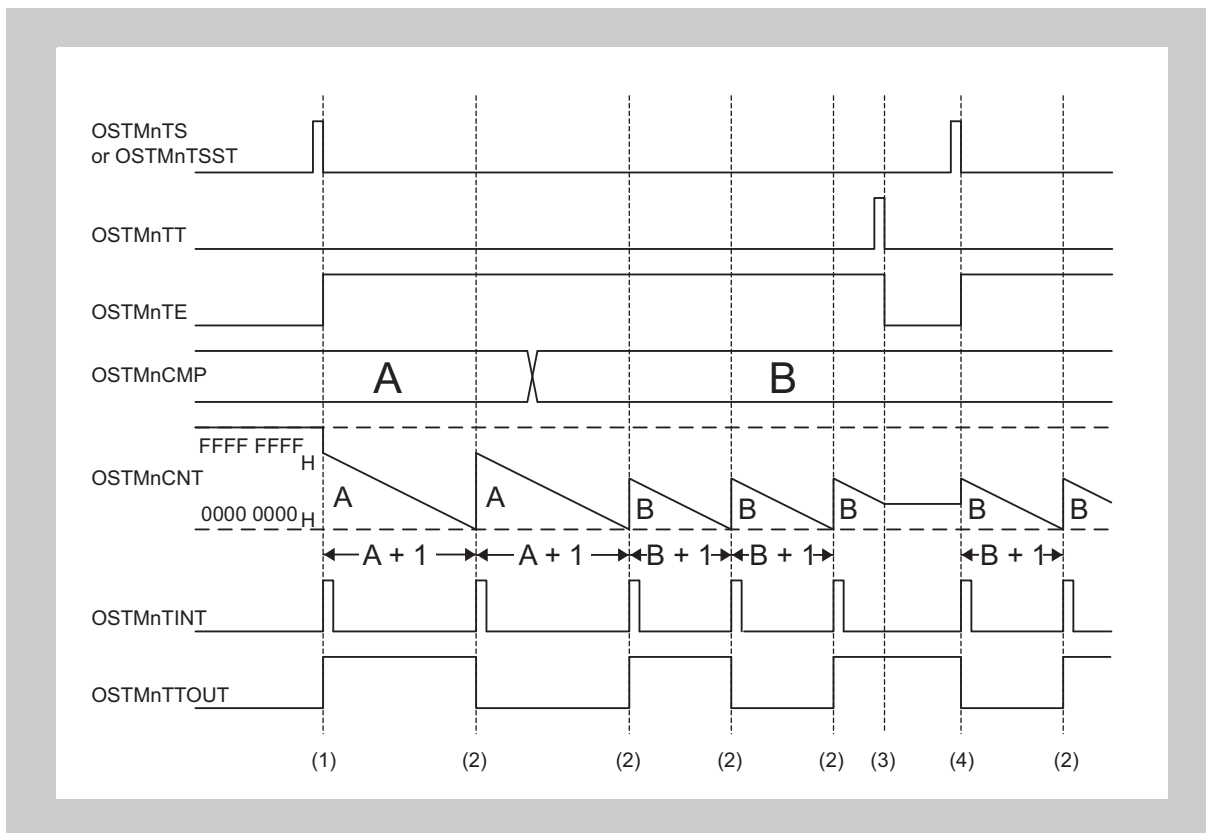

Figure 17-6 Timing Diagram of OS Timer in Interval Timer Mode
1. The counter is started and stopped as shown in and described under Figure 17-6, Timing Diagram of OS Timer in Interval Timer Mode.